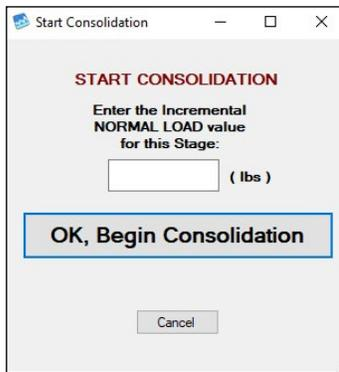

Figure 10: Start Consolidation Dialogue Box
6. Click **Start Consolidation**. If using a pneumatic unit apply the load using the pressure regulator then click **OK, Begin Consolidation** to continue onto the consolidation phase of the test. The software will automatically detect the applied load. For dead-weight units, when prompted, enter the normal load value in pounds (Figure 10). Once the appropriate weights are loaded, click **OK, Begin Consolidation** then release the load arm. The data is displayed in a tabular format and a graphical format. To view the graph, select the **Consolidation Graph** tab. A graph of the current stage will be displayed in real-time.